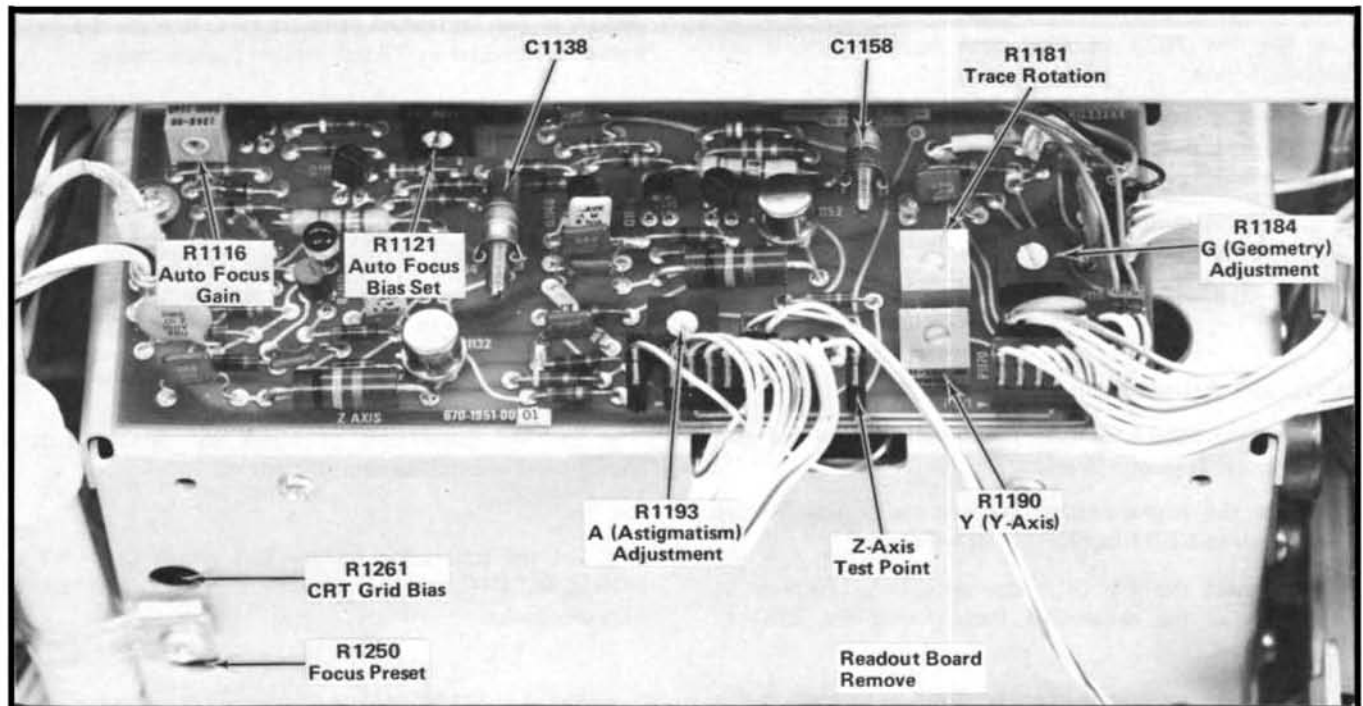

Fig. 2-2. Location of Display and Z Axis adjustments and test points.
d. Connect a 10X probe from the test-oscilloscope to the Z-Axis test point (see Fig. 2-2) and the probe ground lead to chassis ground.
g. ADJUST—CRT Grid Bias adjustment R1261 (see Fig. 2-2) until the trace on the 7623 (R7623) is just extinguished. Set INTENSITY for a viewable trace.
a. Set the test-oscilloscope for 10 V/division, DC input. Connect its 10X probe to the 7623 (R7623) Z-Axis test point (see Fig. 2-2) and probe ground lead to chassis ground.
f. ADJUST—FOCUS control and Astigmatism adjustment R1045 (see Fig. 2-2) to obtain best display definition.
d. ADJUST—Trace Rotation adjustment R1181 (see Fig. 2-2) to align the trace with the center horizontal line.
d. ADJUST—Y-Axis adjustment R1190 (see Fig. 2-2) to align the trace with the center vertical line.
k. ADJUST—Geometry adjustment R1184 (see Fig. 2-2) for minimum bowing for time markers. Adjustment may have to be compromised to obtain less than 0.1 division bowing and tilt everywhere within the graticule area.